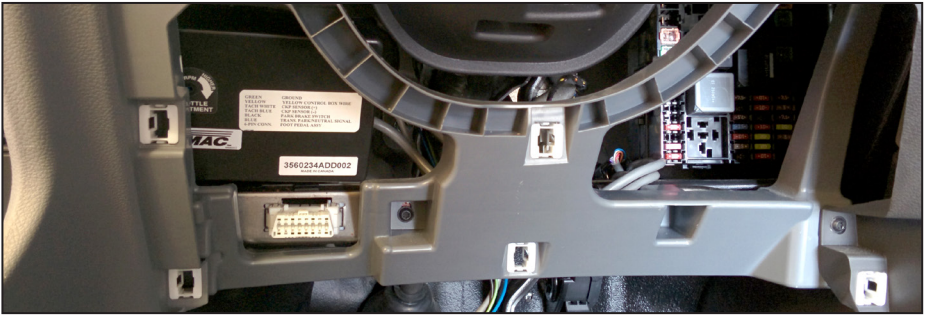

Figure 60 — Mount Throttle Control
- Remove the panel underneath the steering wheel (Figure 60).
- Secure the throttle control with cable ties so that the "SPEED 1" adjusting screw is accessible (Figure 60).